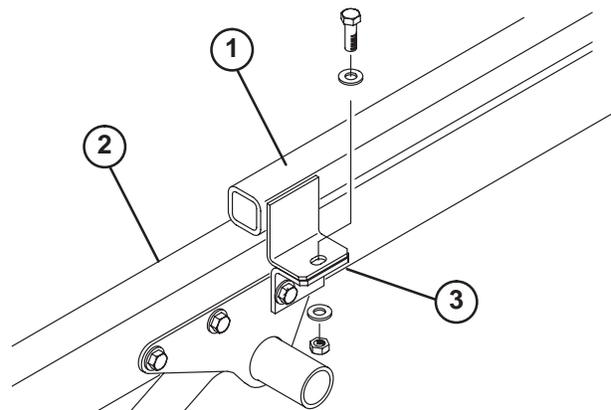

Figure 5
- Remove the capscrew, (2) flatwashers and locknut securing each attachment bracket to hitch frame tabs (Fig. 5).